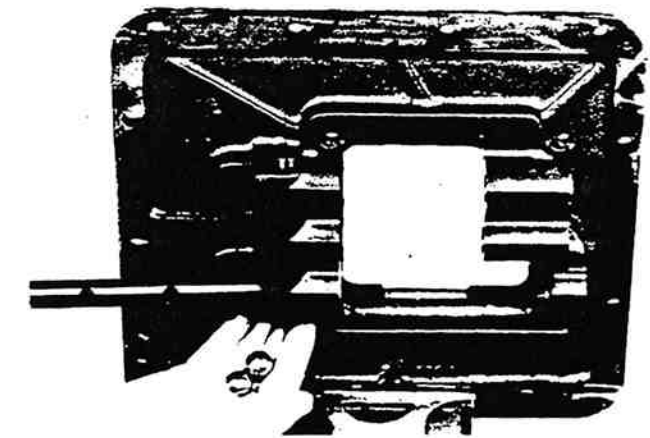

Figure 13-14. Released Interlock Balls.
10. Two interlock balls will fall from interlock ball opening in front boss as the last bar is removed (figure 13-14).